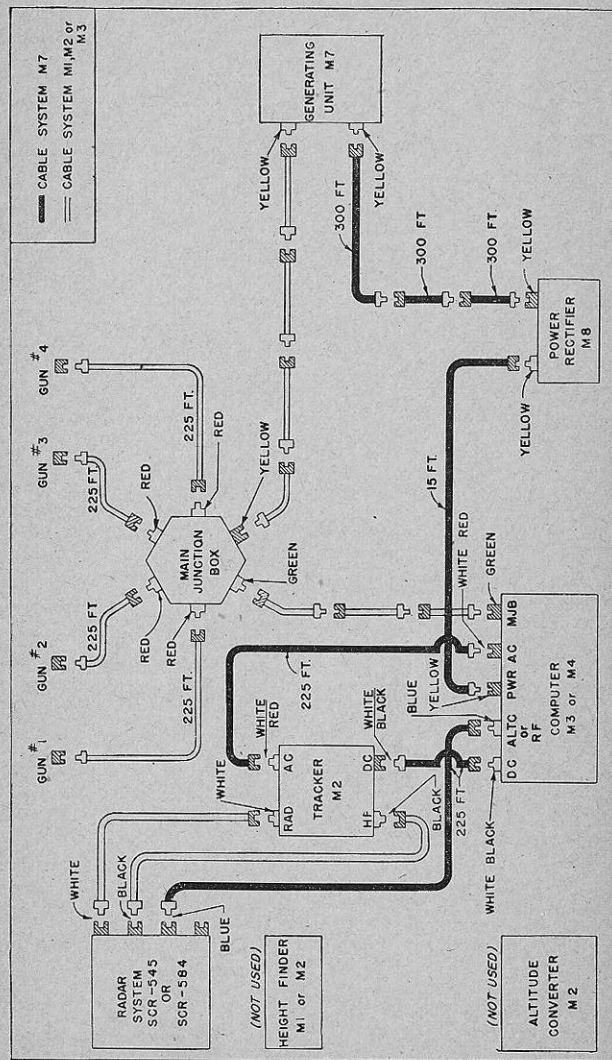

FIGURE 34.—Method I. (Cabling with director M9.)
(3) The recommended method in (1) above is merely a combination of method I and method II shown in figures 34 and 35 which are described in FM 4-138, and is more flexible than either one separately.
(4) When switching from optical to radar tracking as outlined in (1) above be sure to compensate for the parallax change. For optical tracking parallax is figured "director from guns." For radar tracking parallax is figured "radar from guns."
■ 28. DATA LIMITS.—a. *Directors M4 and M7.*—(1) The following data are furnished to the director by the SCR-545-A: